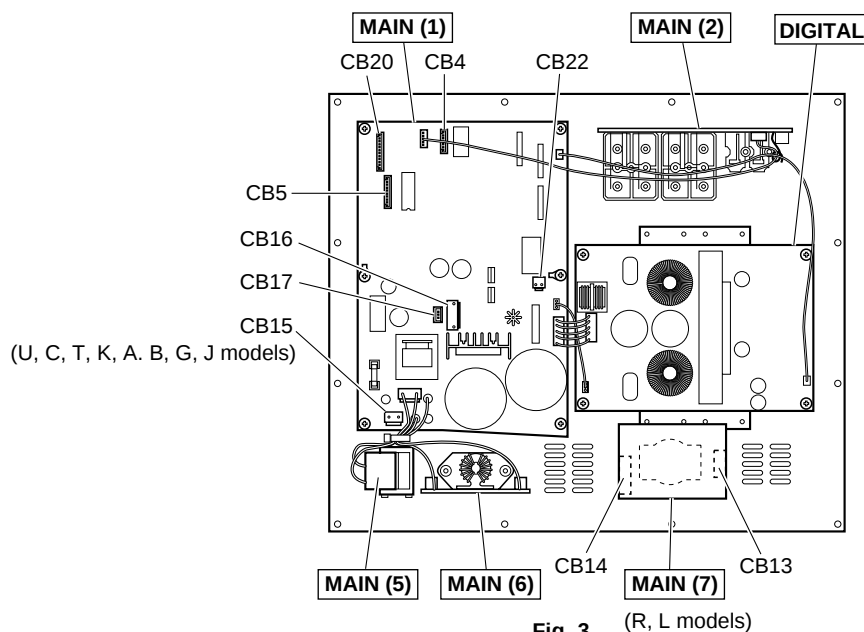

Fig. 3
- Remove CB4, CB5, CB15 (U, C, T, K, A, B, G models), CB16-17, CB20 and CB22. (Fig. 3)
- Remove CB13 and CB14. (R, L models) (Fig. 3)
- CB4, CB5, CB15-17, CB20, CB22 を外します。(Fig. 3)